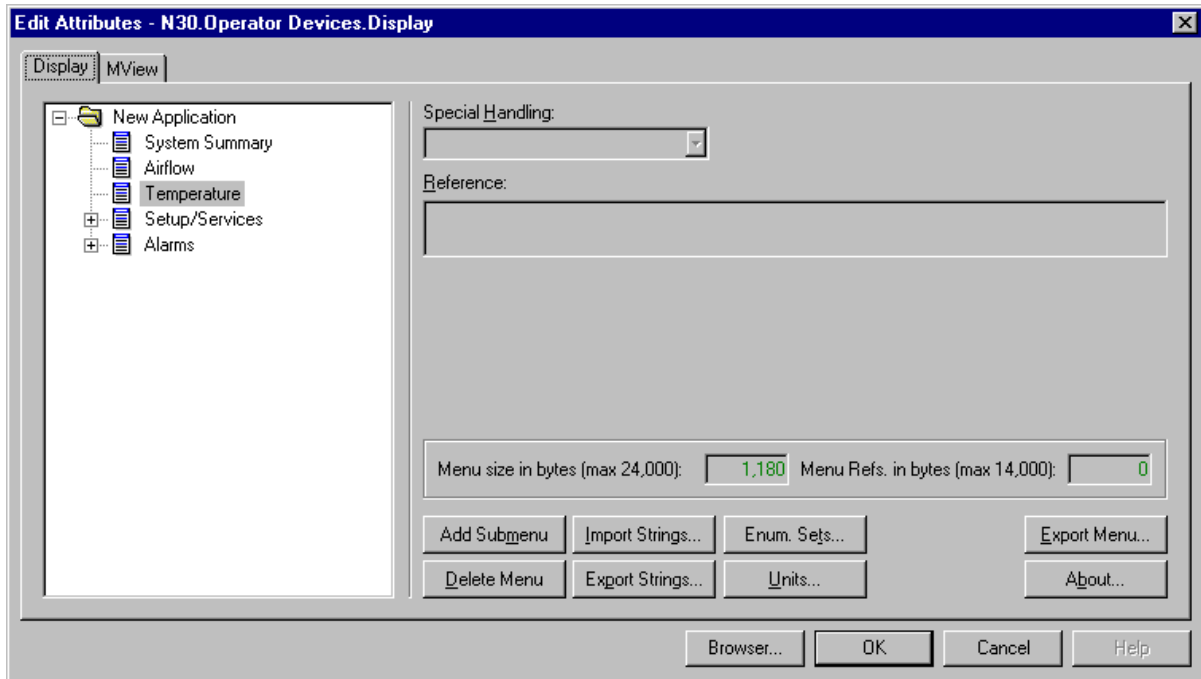
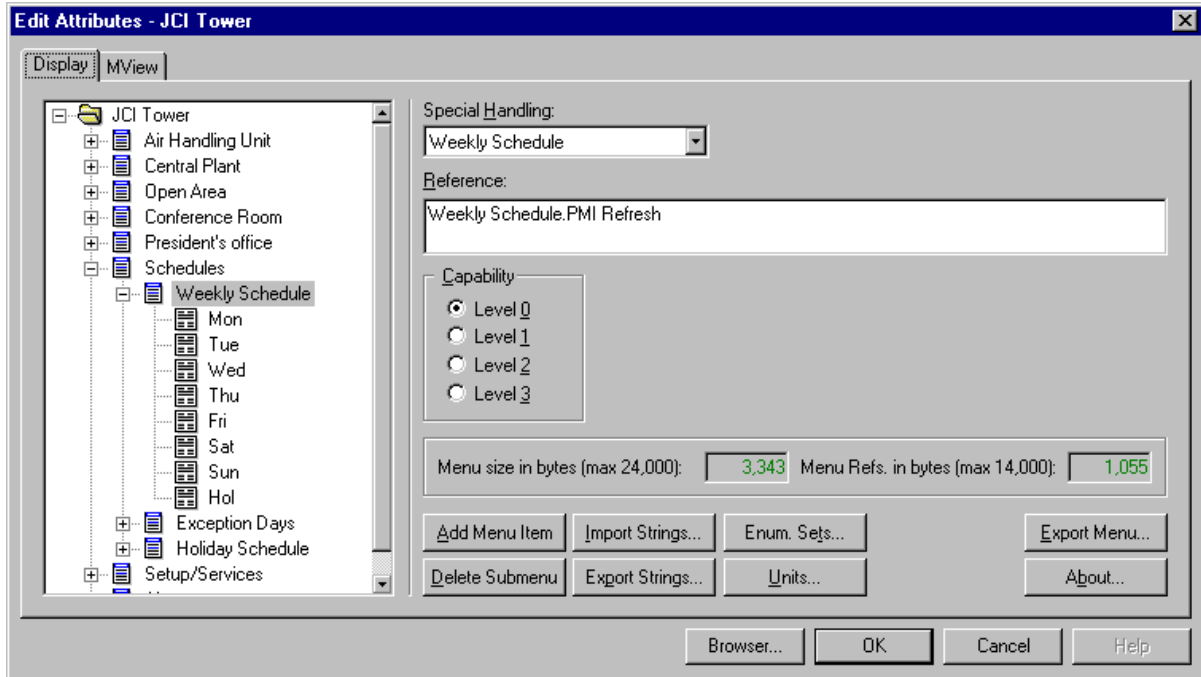
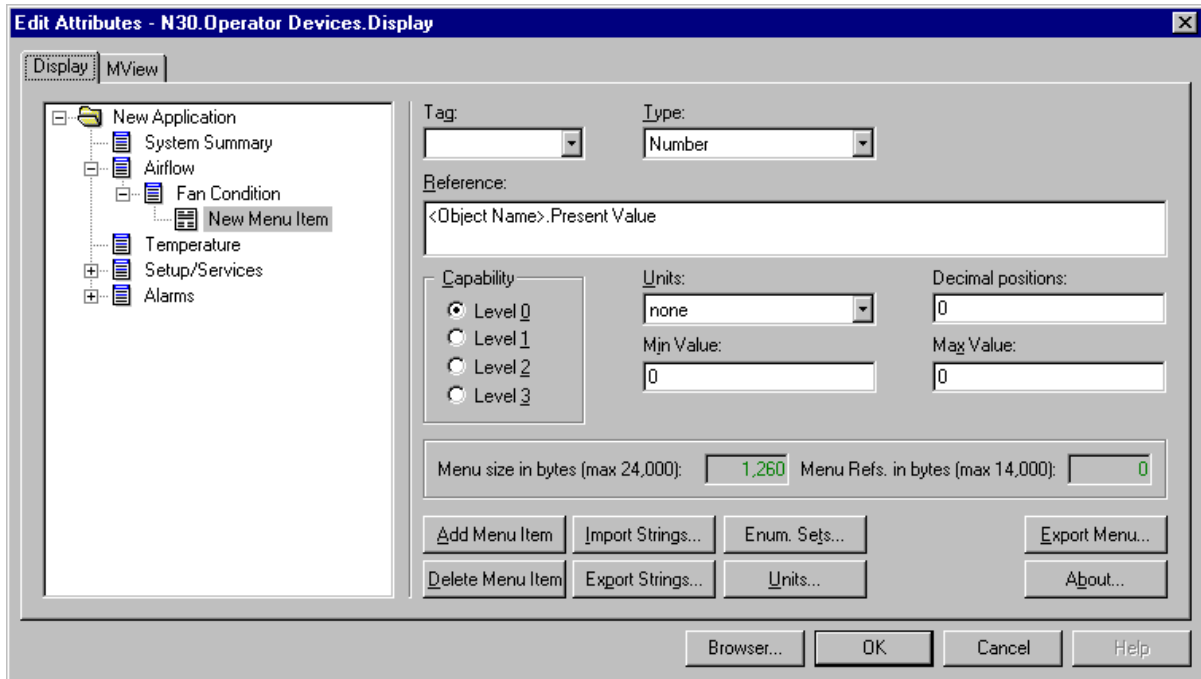

Figure 7-9: Example of LDT Menu Structure
Figure 7-10: Schedule Example
Figure 7-11: Menu Item Editing Form
1. With M-Display open, add top level menus to your LDT following the rules in Table 7-4 and using the methods described in Table 7-5. See Figure 7-9 for an example of an LDT menu structure.
Note: When the menu level is selected, you cannot select the Special Handling and Reference fields (Figure 7-9).
Figure 7-9, Figure 7-10, and Figure 7-11 are examples of the different types of editing forms in M-Display. Notice how the attribute entry area on the right changes, depending on the branch selected in the menu tree.
4. When defining a submenu in the Submenu Editing form (Figure 7-10), a Special Handling drop-down list allows you to select the characteristics of the submenu. For regular submenus, the Special Handling field should be left blank. See *Adding Schedule and Calendar Submenus to the LDT* in this chapter for information on using Special Handling.
3. Name the submenu. In the example in Figure 7-10, we added a submenu called Weekly Schedule.
- Click the Add Menu Item button, or right-click and select Add Menu Item from the pop-up menu. The Menu Item Editing form (Figure 7-11) appears.